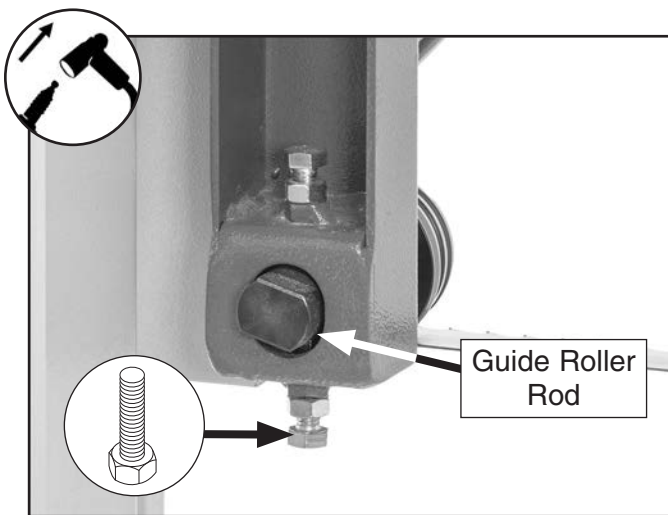

Figure 37. Guide roller adjustment components.
3. Loosen lower hex bolt on guide roller just enough so guide roller rod can be turned (see **Figure 37**).